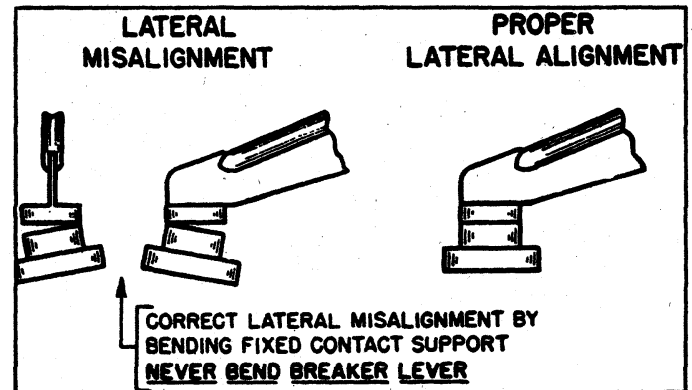

Fig. 5 - Point Alignment
- Check point alignment (fig. 5) then, adjust distributor contact point gap to .019" (new points) or .016" (used points). Breaker arm rubbing block must be on high point of lobe during adjustment.